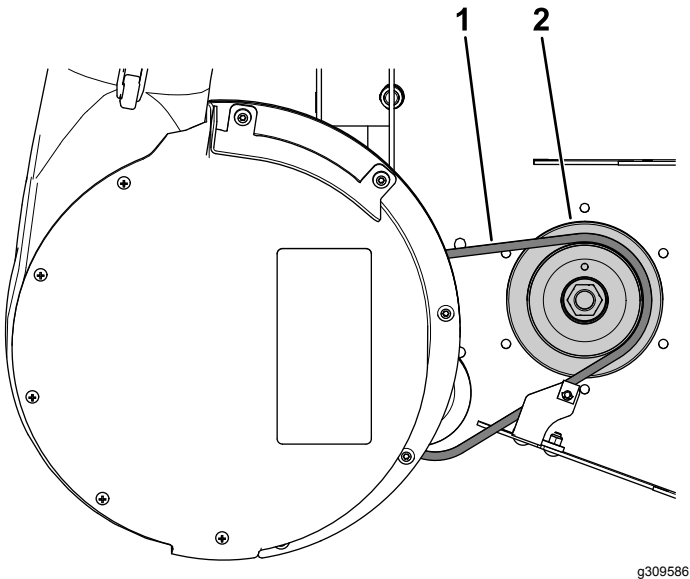

**Figure 47**
2. Install the blower-belt cover over the blower belt and secure the blower-belt cover with the knob (Figure 47).